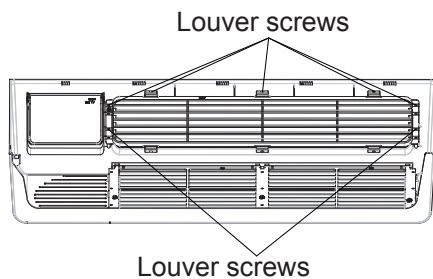

Fig. 18 – Backside of Front Panel
2. Remove louver screws that hold louver insert in place (from back side of front panel). See Fig. 18.